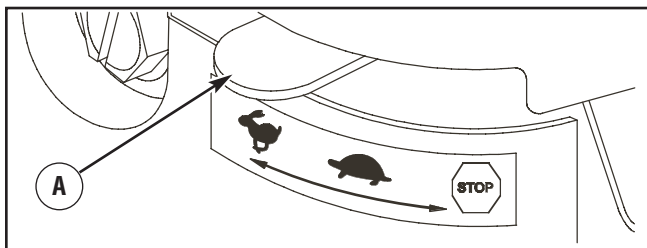

Figure 18 — Typical Engine Throttle Control
- If equipped, move the throttle lever to “Fast” position (A), shown as a rabbit 🐰 (Figure 18).